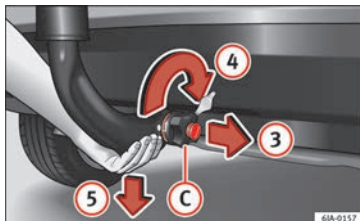

Fig. 106 Unblock the ball-headed bar.
- Hold the ball-headed bar from underneath **»» Fig. 106** and remove manual regulator **(C)** with your other hand in the direction of arrow **(3)**.